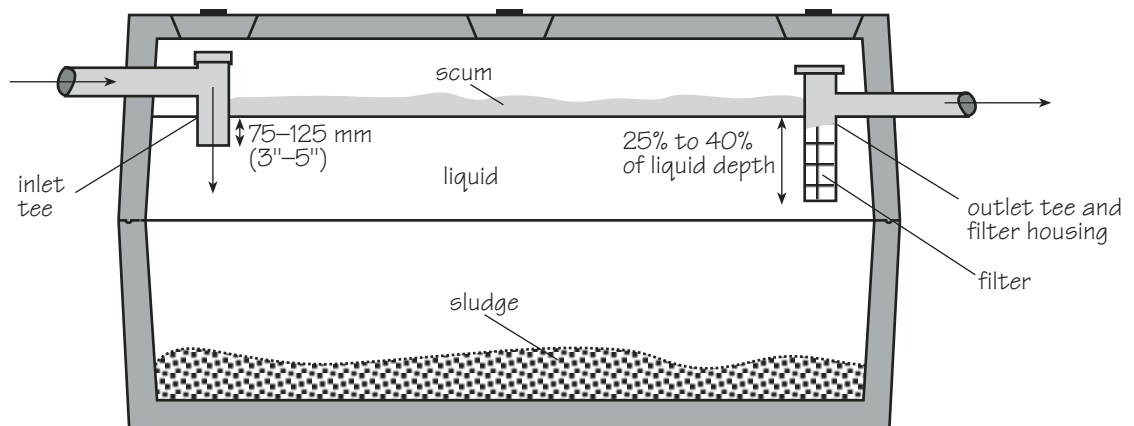

Figure 5 **Example of a Septic Tank Effluent Filter System**
If fixtures and sewer line are clear, the next step is usually to have a certified installer or certified septic tank cleaner inspect and pump your septic tank. Key trouble spots for blockage in the septic tank are the inlet and the outlet baffles or tees (Figure 5). It is important to check that the tank still has baffles. If these have broken down or broken off, scum and solids may have moved into the field and clogged it. If the problem is a blocked or crushed line leading to the tank, or blocked tank inlet or outlet, it will usually show up when the tank is inspected or pumped.
- Septic tank effluent filters shown in Figure 5 are designed to intercept solids that might otherwise escape from the tank and clog the field. Filters need regular cleaning usually when the septic tank is inspected or pumped. If they require more frequent cleaning, it is probable that the materials that blocked the filters would have reached the disposal field, causing potentially serious and expensive damage.